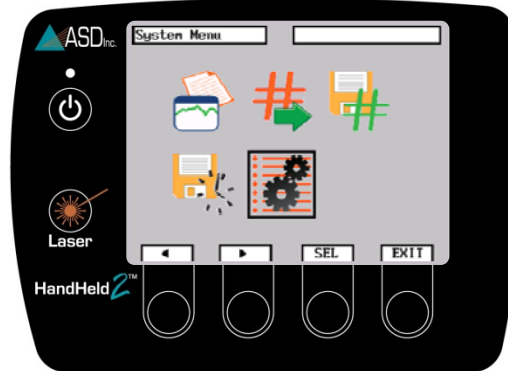

Figure 2-37: System Menu
Navigate to the System Menu icon and press the *SEL* (Figure 2-37).
- Step 1 Navigate to the System Menu icon and press the *SEL* (Figure 2-37).